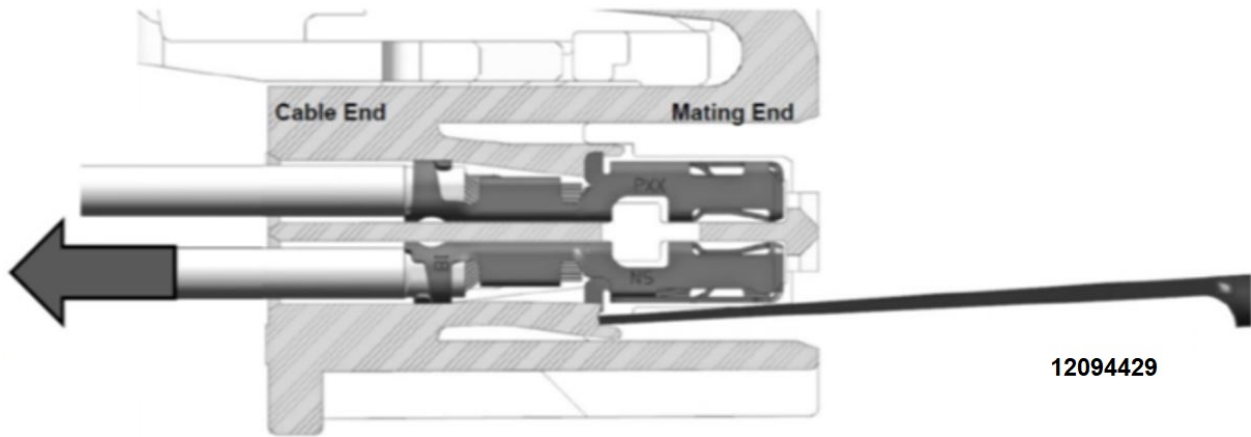

Figure 1. *Terminal removal*
8. To remove a defective contact terminal, follow the steps below and see the diagram in figure 1: